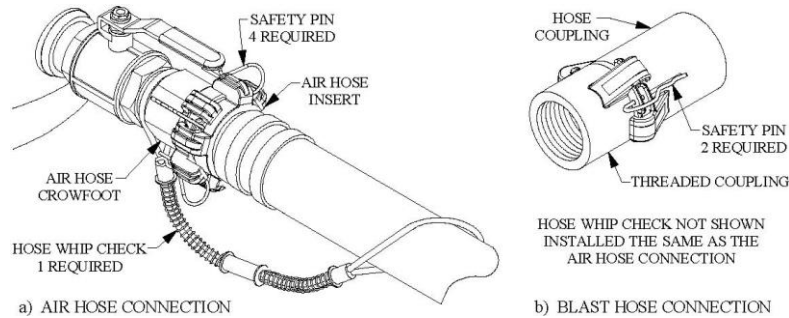

Figure 8.2 – Hose Connection Disconnect Protection
- 8.6. **Blast and Air Hose Couplings:** All air hose, blast hose, and threaded couplings have two pin holes that align when connected. To protect against accidental hose disconnections safety pins must be installed through these holes. Each hose connection must also include a hose whip check that will hold the hose if there is an accidental disconnection. Connect one loop to each side of the connection and stretch out as shown in Figure 8.2 below. Check hose connections daily and replace missing or damaged pins and whip checks.